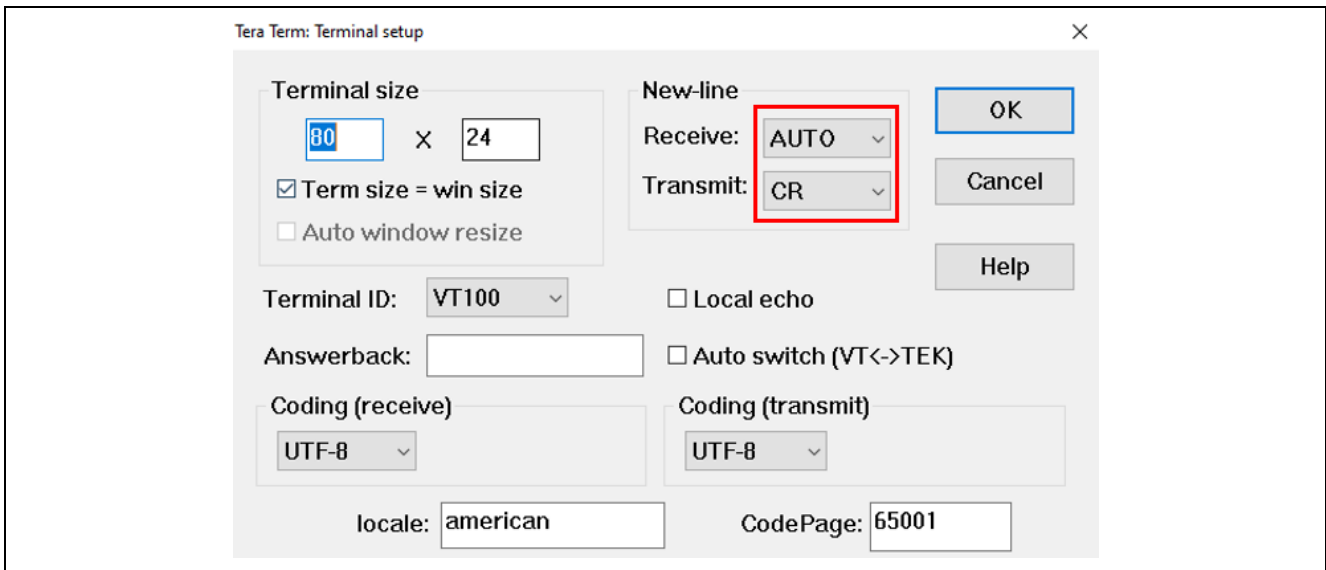

Figure 8. Select Receive: “Auto” and Transmit: “CR” on the Terminal Setting
- Using the **Setup** menu, select **Setup > Terminal...** and select “**AUTO**” as Receive and, select “**CR**” as Transmit, as shown in Figure 8.